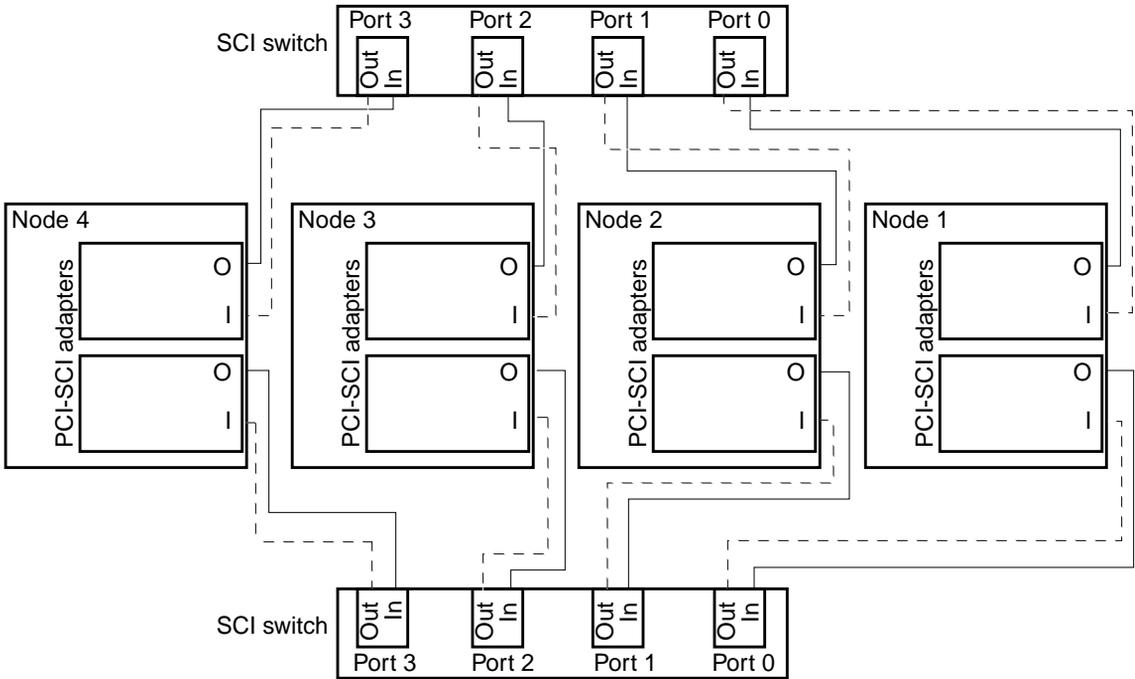

FIGURE 3-4 Typical Four-Node PCI-SCI Cluster Interconnect
- A four-node cluster requires SCI switches. See FIGURE 3-4 for a cabling diagram. See the SCI switch documentation that came with your hardware for more detailed instructions on installing and cabling the switches.
Connect the ends of the cables that are marked “SCI In” to the “I” connectors of the adapters and “In” connectors on the switches. See FIGURE 3-4.